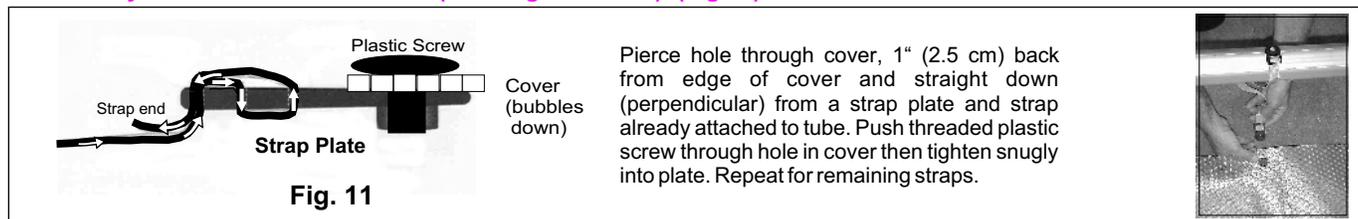

Fig. 11
- Leave an extra 4" (10 cm) on cover length when installing the reel at mid-point or off center to allow for fold (see Fig. 11)
- Choose the appropriate instructions below for your pool setup. If you have determined a mid-pool placement (or off-center), it will be easier if you mark the cover then move it away from the pool and fold it (bubbles in) on a flat surface. Choose EITHER Fig. 11 OR Fig. 12.
For Reel Systems Placed at Mid-Pool or off center (Round, Oval or Irregularly Shaped Pools) (Fig. 11)